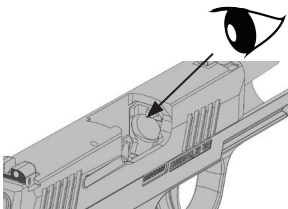

Figure 3
5. Visually and physically check chamber (Figure 3) to ensure pistol is completely free of ammunition.